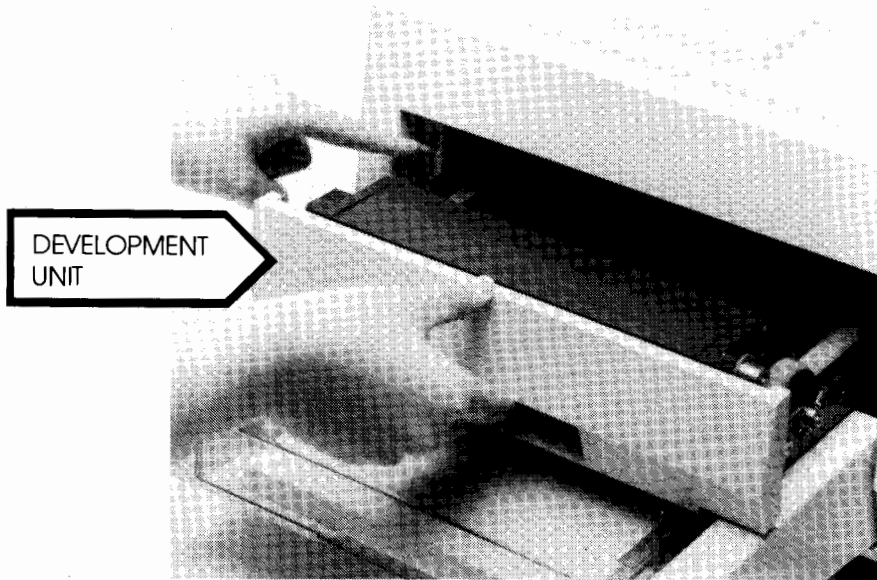

Figure 4-17. Removing Development Unit
- b. Remove the development unit by pushing down the green unlocking lever and then pulling out the development unit (figure 4-17).